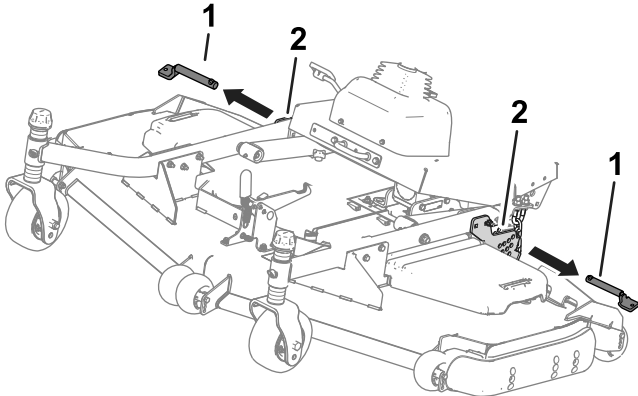

Figure 36
4. Remove the pins from the height-of-cut plates (Figure 36).